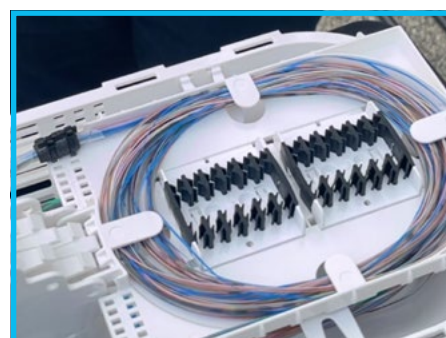

Figure 40
8. Route the fibre in the tray as shown in figure 40.